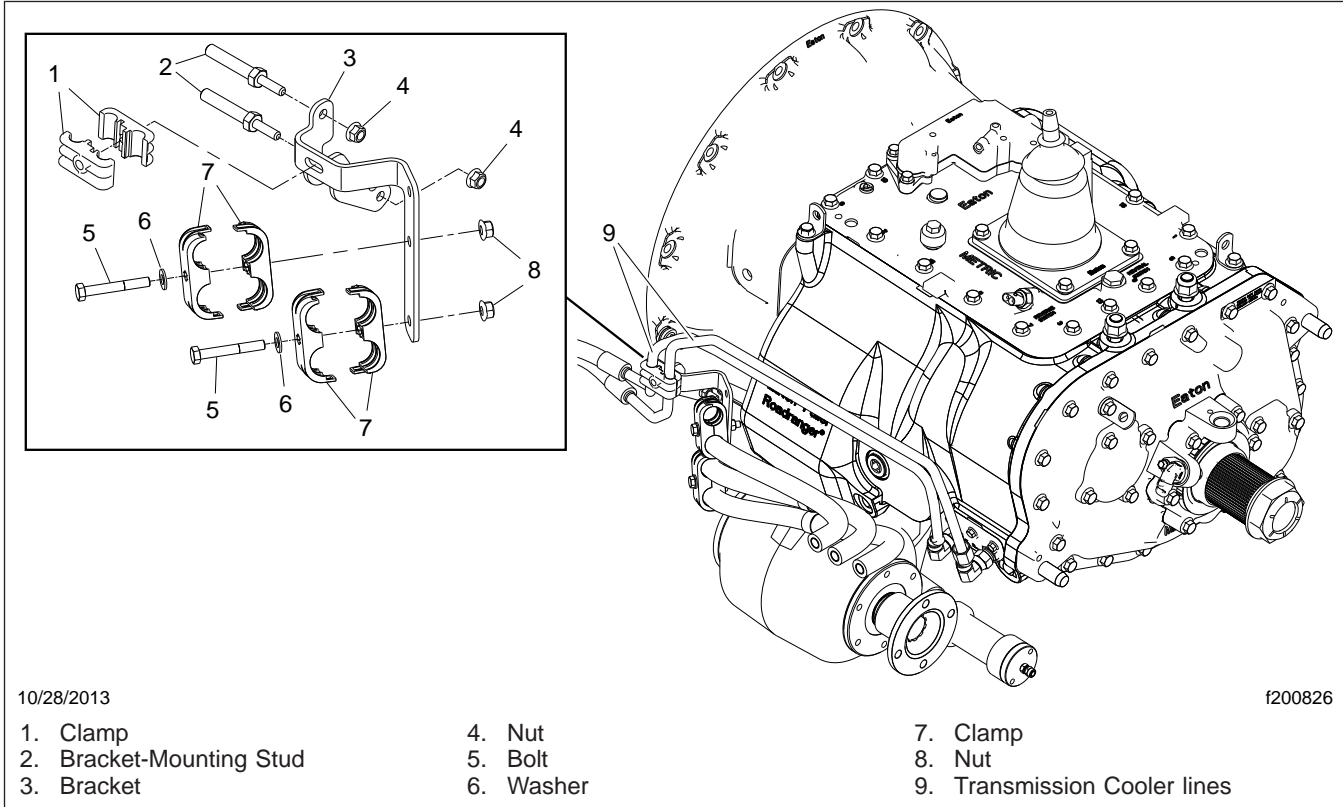

Fig. 4, Bell Housing Studs and Transmission Cooler Line Bracket
20. Install the new bell housing studs in the transmission bellhousing. Tighten 38 to 45 lbf-ft (52 to 61 N·m). See Fig. 4.
21. Install the new transmission cooler line bracket. See Fig. 4.